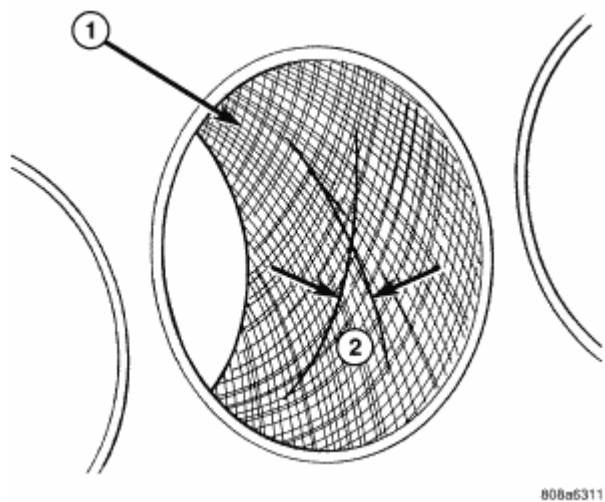

Fig. 170: Honing Cylinder Bore
2. Honing should be done by moving the hone up and down fast enough to get a cross-hatch pattern. When hone marks **intersect** at 30-50 degrees, the cross hatch angle is most satisfactory for proper seating of rings. See **Fig. 170**.